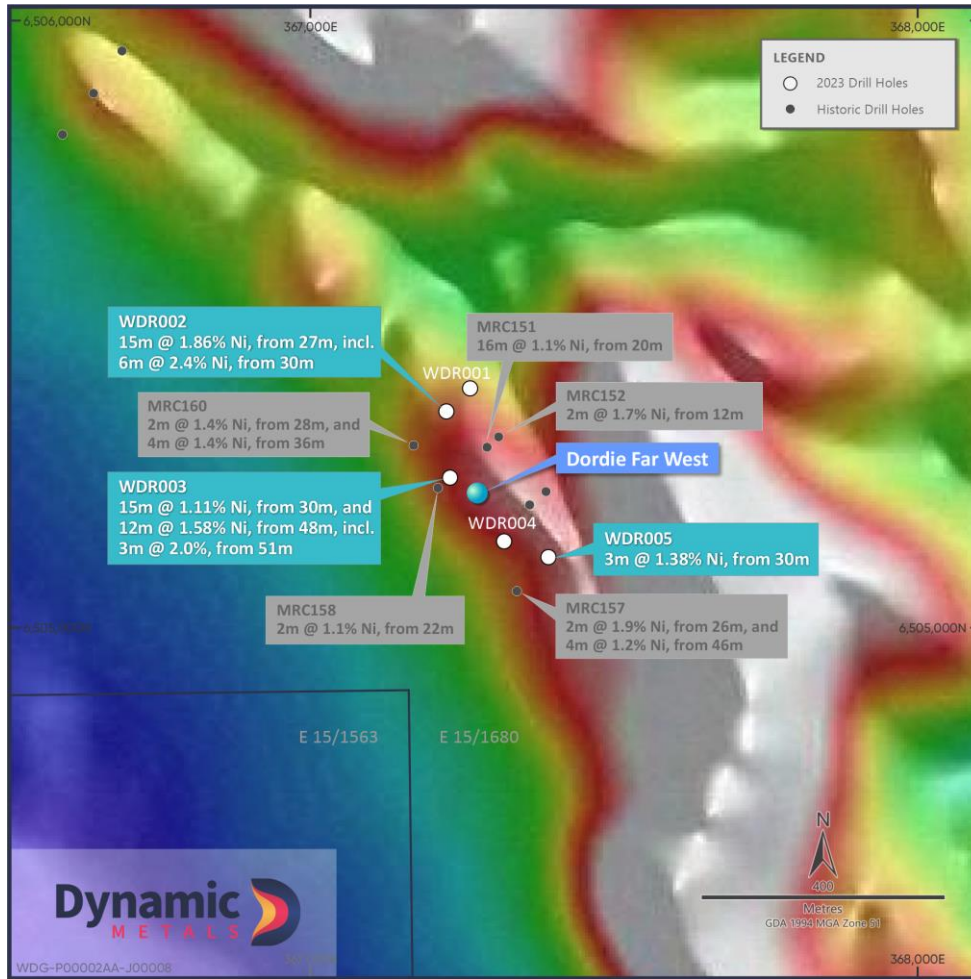

Figure 1: Drill hole positions and significant results at Dordie Far West
DFW is located on the northwest margin of the Widgiemooltha dome on E15/1680, where anomalous nickel results were detected in RC drilling completed by Mincor Resources Limited (ASX:MCR) in the late 2000s (Figure 1)1,2. After review of the historic data, a drill program was designed to test for Kambalda komatiite type massive sulphide mineralisation interpreted to occur where the base of the komatiite stratigraphy is in contact with the underlying basalt, known as the ‘basal contact’.
Five Reverse Circulation (RC) holes were drilled for a total of 736m at the prospect in February 2023, with drilling undertaken on four sections over a strike length of approximately 300m (Figure 1). Drill hole collar positions and significant drill hole results from 3m composite RC samples are shown in Figure 1: and Table 1.